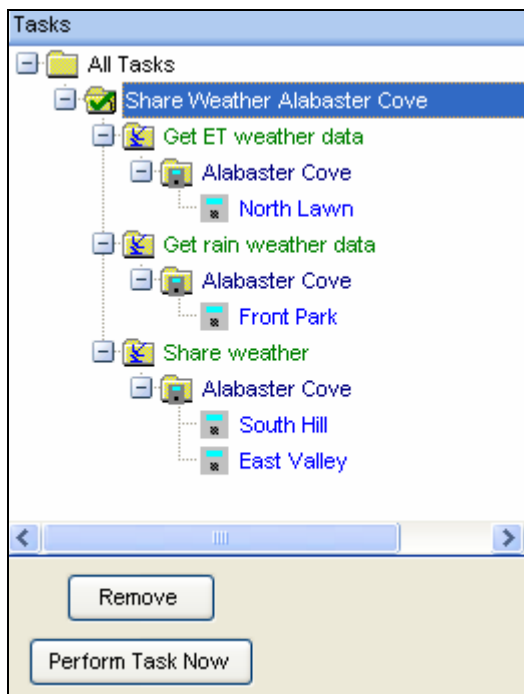

Figure 12.2.7
8. Repeat this step for each controller that you want to add to the list. Each controller will appear under the **Share weather** folder in the **Task** window (Figure 12.2.7).